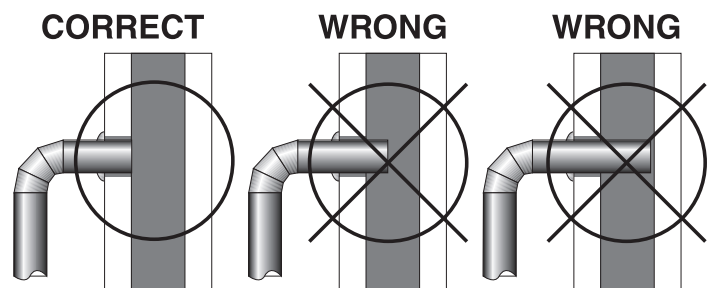

Fig.9 – Stovepipe/Flue Connections
4. The pipe cannot extend into the chimney flue (fig. 9).
5. Secure pipe/elbow sections with a minimum of three (3) equally spaced sheet metal screws at each joint and at the stove collar to make the pipe rigid.
6. It is recommended that no more than two (2) 90 degree bends be used in the stovepipe installation. The use of more than two 90 degree bends may decrease the amount of draw and possibly cause smoke spillage. Where possible, use only corrugated (nonadjustable) elbows. These provide a better seal.
6. Install the stovepipe into the thimble as far as possible without extending past the flue lining (see figures 9 & 10 on pages 8 & 9).